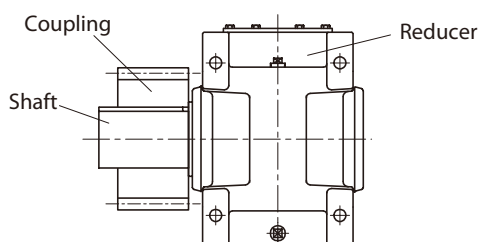

Fig. 5-3
- Locate the sprocket and gear as close to reducer as possible so the load point will be closer to the reducer's vertical center line (Fig. 5-3).